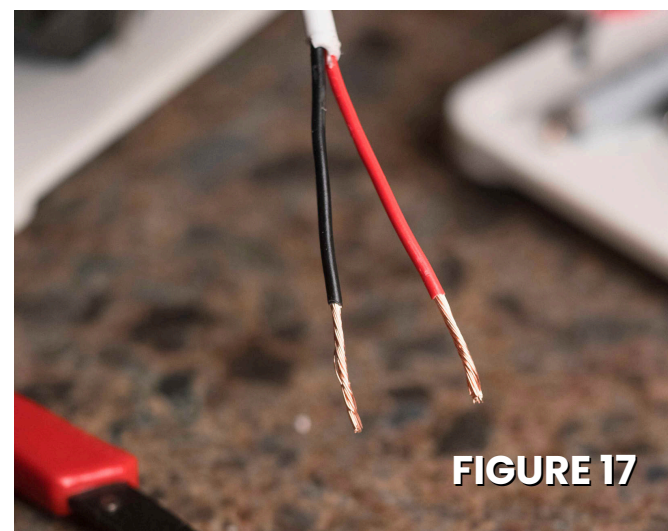
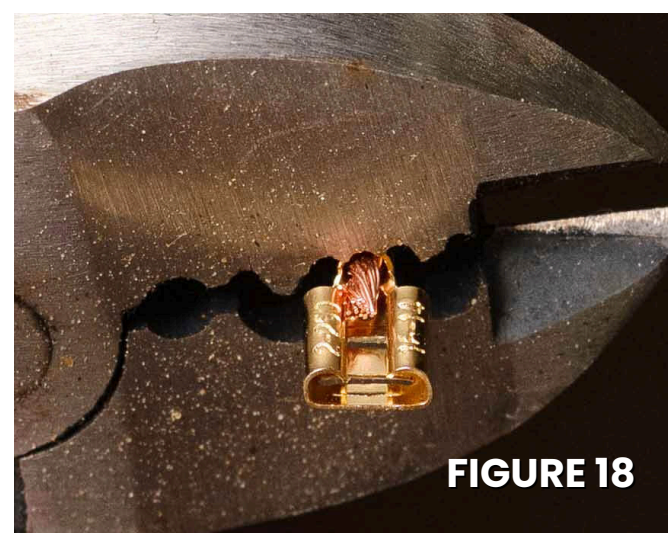

FIGURE 17
FIGURE 18
9. Identify the red quick-disconnect and black quick-disconnect that match the designated wires. Each will receive a quick connect. Strip small amounts of insulation from the matching colored wire (*figure 17*). Insert the insulated connection cover. Trim exposed copper wire as needed. Crimp the connector to the exposed portion of the wire (*figure 18*). Solder can be used on the crimped portion of the wire to provide a more secure connection.